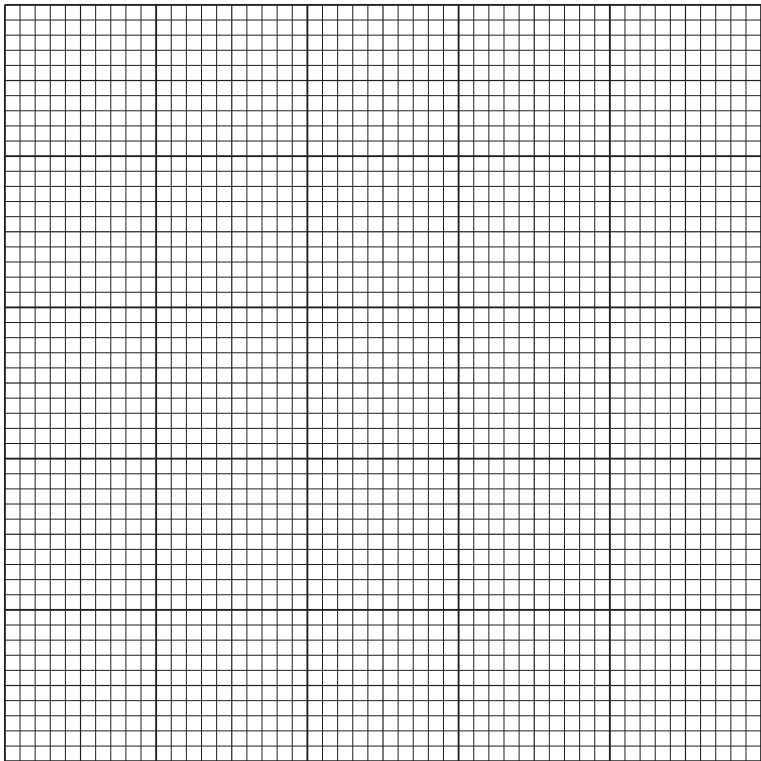

Fig. 1.3
(i) Plot a graph of the data in Table 1.2 on the grid in Fig. 1.3.
- (ii) Use your graph in Fig. 1.3 to determine the rate of reaction when the temperature is 37.5°C .